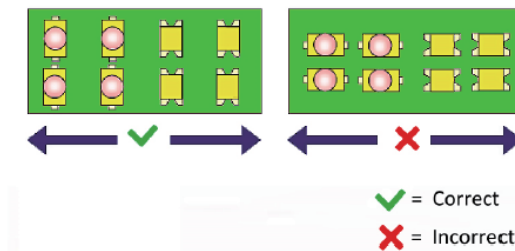

Fig. 11
- Mounting direction of SMD components should be placed perpendicular to the direction of PCB travel. This will ensure the solder wets on each lead simultaneously during reflow and prevent shifting of LEDs. Refer to below diagram (Fig.11) for examples of recommended mounting direction.